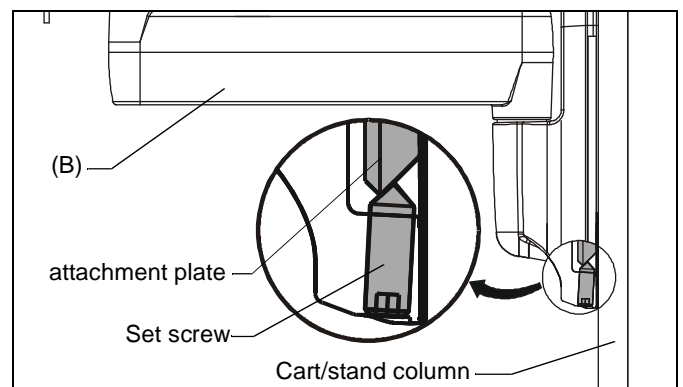

Figure 4
- Tighten set screw using 3/16" hex key (G). (See Figure 4)
CAUTION: IMPROPER INSTALLATION CAN LEAD TO ACCESSORY FALLING CAUSING SERIOUS PERSONAL INJURY OR DAMAGE TO EQUIPMENT! Make sure set screw engages back side of bracket on attachment plate. (See Figure 4)